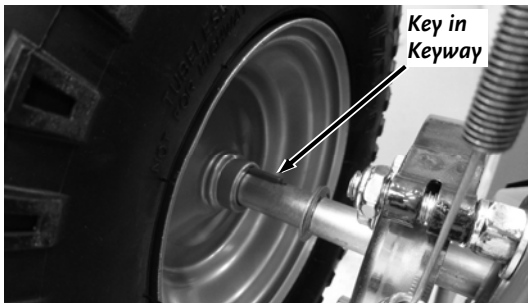

Figure 16
23. Position the Key into the Axle Keyway, align the Key Slot in the Wheel with the Key and slide the Wheel onto the Axle (**Figure 16**).